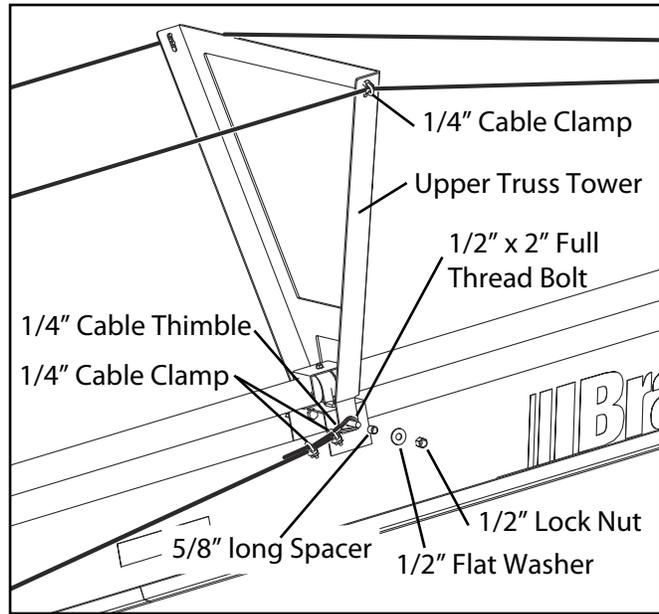

FIG. 3-8. Truss Tower & Truss Cable Mounting - 862
On the 862, the Truss Tower closest to the discharge end is mounted using 1/2" x 2" full thread bolts, 5/8" long Spacers, 1/4" Cable Thimbles, 1/2" flat washers and lock nuts. See Fig. 3-8.
2. Loop the short truss cables around the thimbles installed on the bolts holding the Upper Truss Tower closest to the discharge end. See Fig. 3-8. Use two 1/4" cable clamps to make the loop in the cable. Make sure the u-bolt of the clamp is on the short side of the cable. Leave approximately 3" between the clamps. Torque the nuts to 15 ft.lbs.